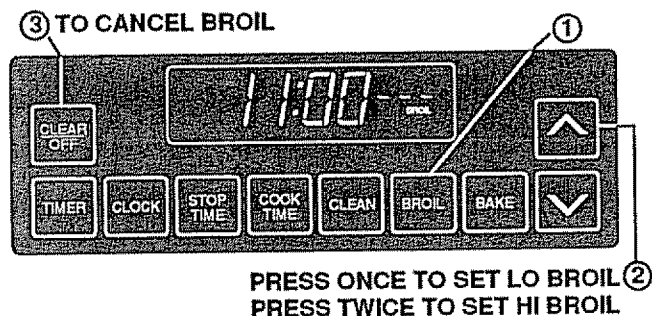

FIG. 5
1. Press BROIL. "BROIL" will flash and (- - -) will appear in the display. See Fig. 5.